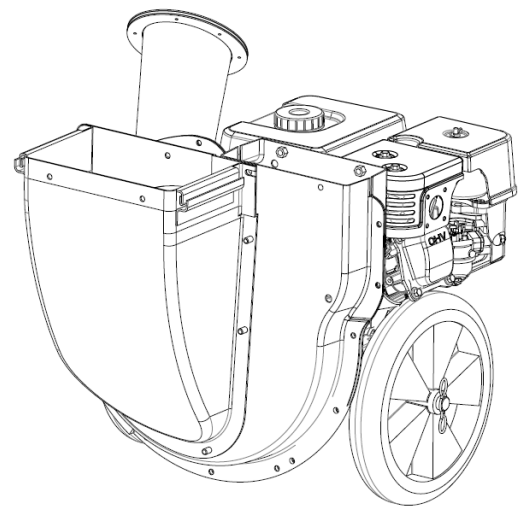

Figure 7
6. Attaching the chipper wheels (Figure 7)